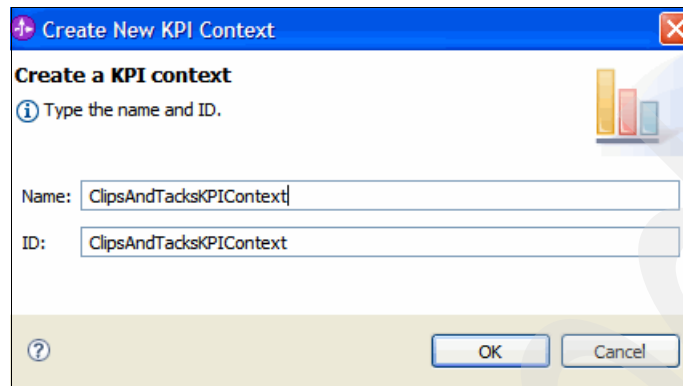

Figure 6-55 Creating a KPI Context
2. In the Create New KPI Context window (Figure 6-55), for Name, type `ClipsAndTacksKPIContext`. Click **OK**.